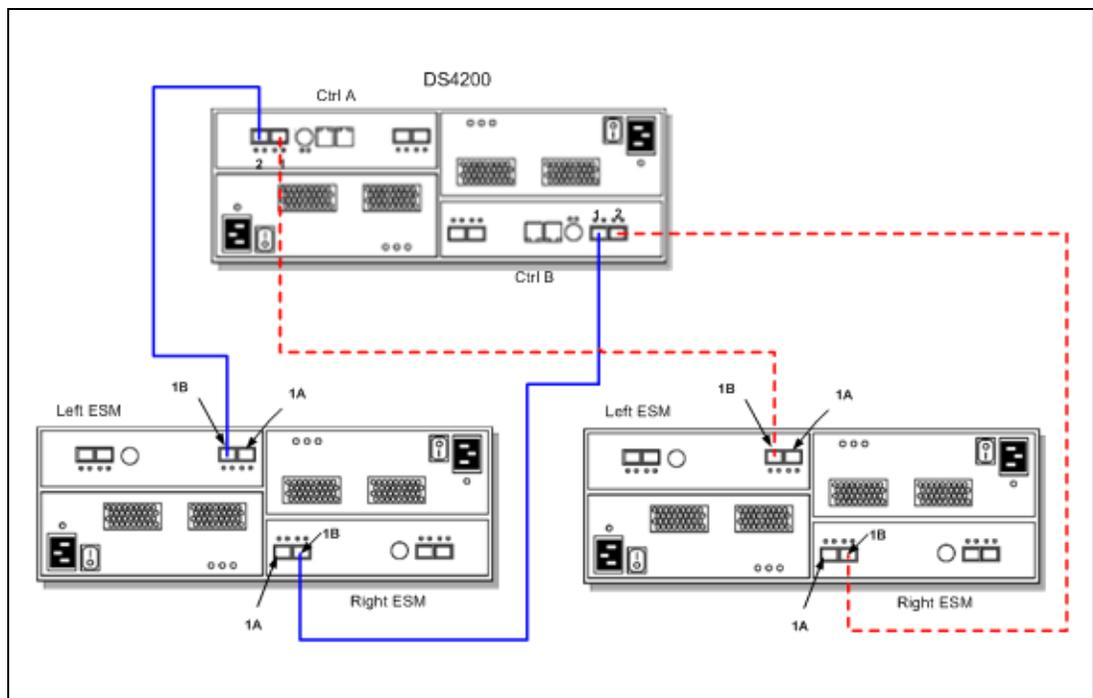

Figure 3-13 DS4200 drive cabling with two EXP420 enclosure
- ▶ If you attach a second EXP420, connect it by using the second port on the controller, as shown in Figure 3-13.